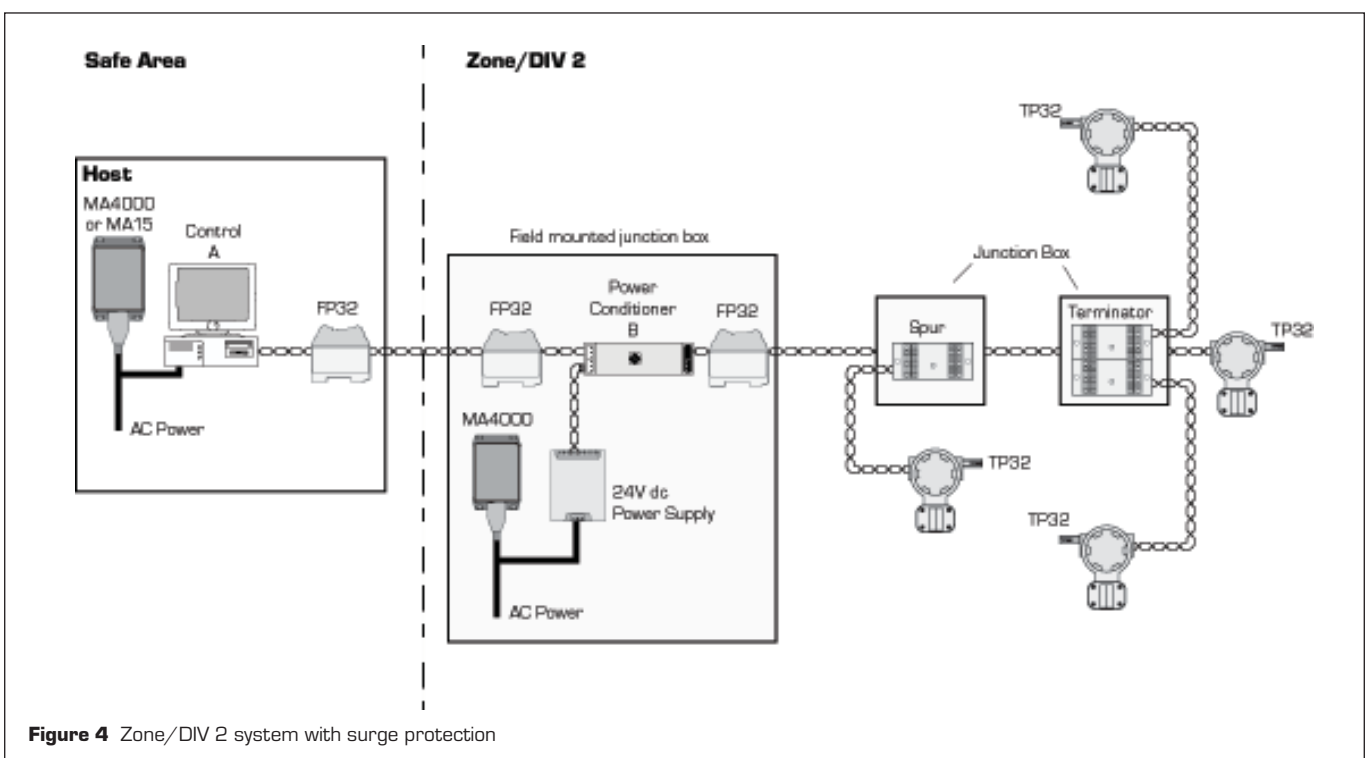

Figure 4 Zone/DIV 2 system with surge protection
Zone 2 / Div 2 takes its description from the nature of the circuit being protected and is non incendive (nI) or non-arcing (nA), see figure 4.
- ◆ Use FP32 on the input and output of the junction box to protect the power conditioner if remotely mounted and A-B (Fig 4) >100m.
In figure 4, below, where the fieldbus controller is situated in the Zone/DIV 2 area, a standard transmitter protector TP32 may be used without adversely affecting the level of safety.